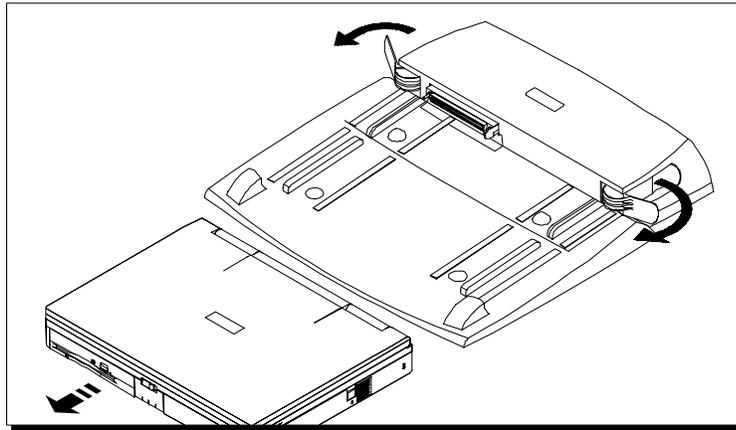

Figure 6-10: Removing the Notebook from the I/O Replicator
2. Pull both release levers in the direction of the arrows as illustrated in *Figure 6-10*.